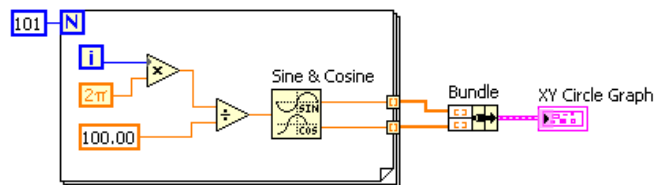

Figure 5.26
1. Build the block diagram shown in Figure 5.26.